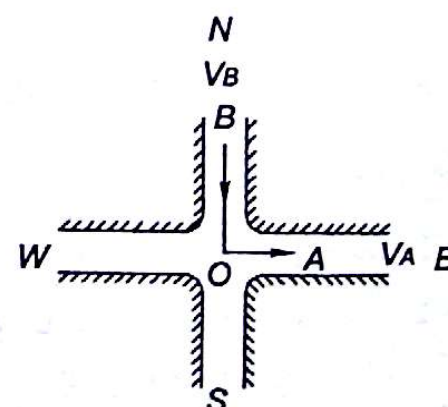

Fig. 12.18
- 12.1 A car A moves with velocity 10 m/s towards east. Another car B moves towards south with velocity of 10 m/s. What is the relative velocity of A with respect to the velocity of B (Fig. 12.18)?